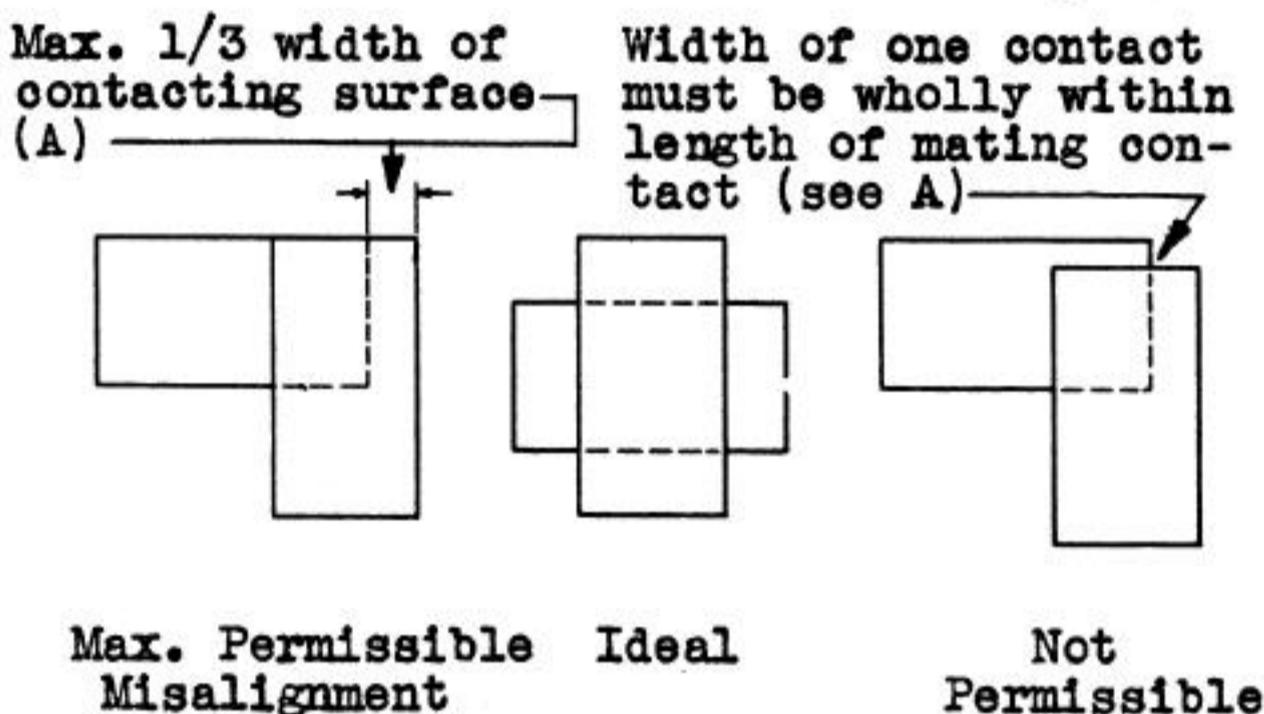

Fig. 103 - Alignment of Heavy Bar Contacts -
(c) Heavy Bar Contacts - Fig. 103 (A):
The contact alignment shall be within the limits indicated in Fig. 103. Gauge by eye.
(b) Fig. 103 (B) - Relays Equipped with Removable Metal Armature Stops: With the armature held against a gauge of the thickness specified under "Front Contact Make" inserted between the armature and the upper flanges of the removable metal armature stop, the armature or traveling contact spring shall touch the front contact or stop. Sufficient pressure shall be applied to the armature directly op-